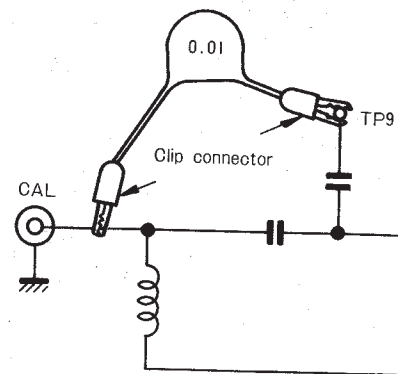

Fig. 27
- 1) Insert a barium titanate capacitor ( $0.01\mu\text{F}$ ) between DG-5TP9 and CAL terminal (Fig. 27).